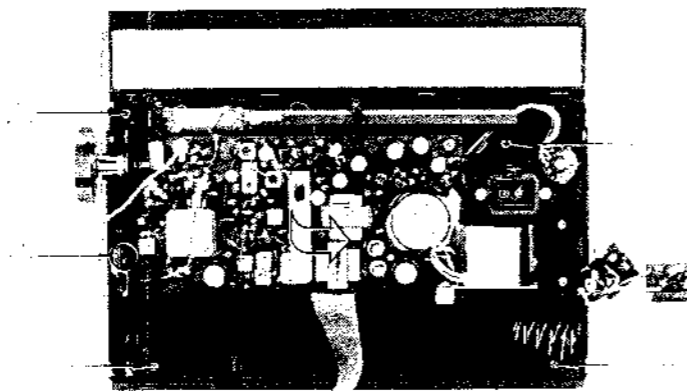

Fig. 4-1 Chassis removal
1. Remove four screws marked with X in Fig. 4-1.
2. Unsolder two TONE switch lead wires marked with X in Fig. 4-1.